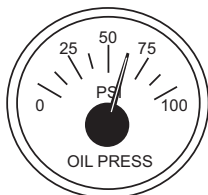

Figure 13. Oil Pressure Gauge
9. The **engine oil pressure gauge** (Figure 13) will indicate the oil pressure of the engine. Under normal operating conditions the oil pressure should be approximately 50 psi (345 kPa). When starting the generator the oil pressure may read a little higher, but after the engine warms up the oil pressure should return to the correct pressure range.